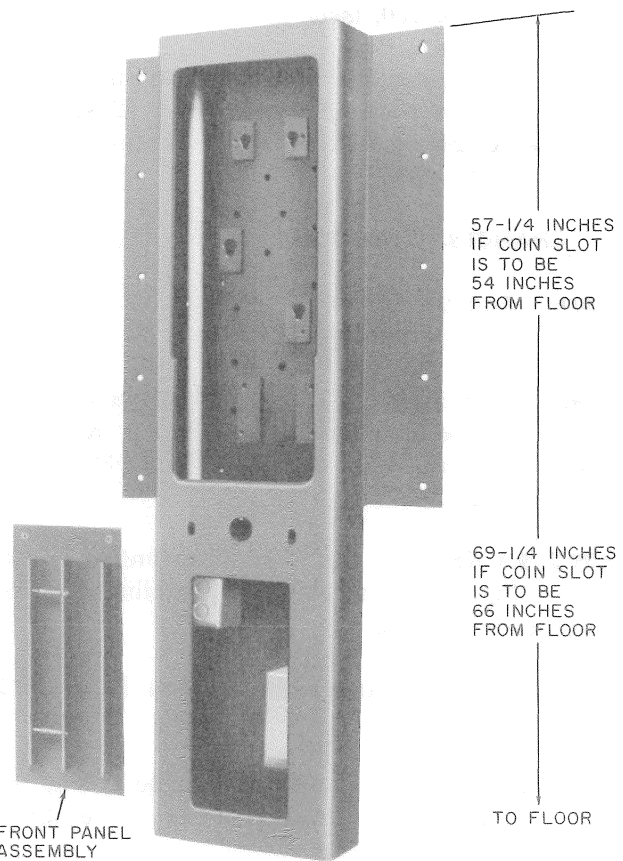

Fig. 29.3—KS-20842, List 44 Wall Mounting Bracket
2.29.2 A KS-20842, List 44 wall mounting bracket (Fig. 29.3) is available for installing a walk-in housing on a wall.◀
(1) Hold the mounting on wall at the required height (Fig. 29.3) and mark the location for two fasteners at the key hole slots.
(2) Put the mounting aside and install the two fasteners at the marked locations. Use screws or bolts per Table C.
(3) Hang mounting on the two fasteners and further secure it to wall with eight additional fasteners.